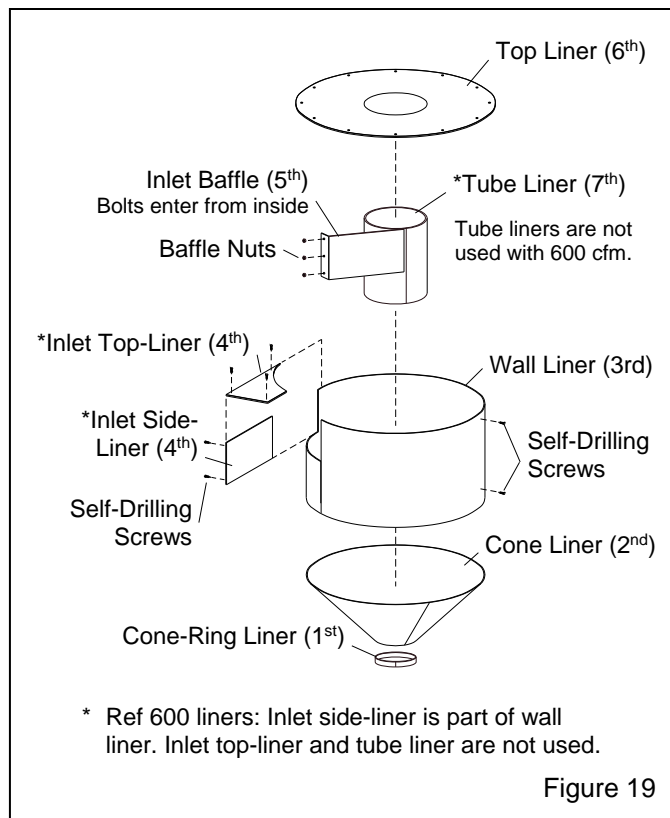

Figure 19
7.6 Replacing or Field Installing Optional Reclaimer Liners, Figure 19. Available for 600 and 900 cfm reclaimers. The reclaimer must be designed to accept liners and have a bolt-on, removable top.
Installation Note: The numbers in parenthesis (-) shown in Figure 19 and the applicable paragraph, show the recommend order of installation. When installing liners, make sure that seams are aligned. The final assembly must be smooth and free of protrusions, edges, and gaps. Any edges will disrupt the air flow, causing wear, and affect the reclaimer's media cleaning efficiency.